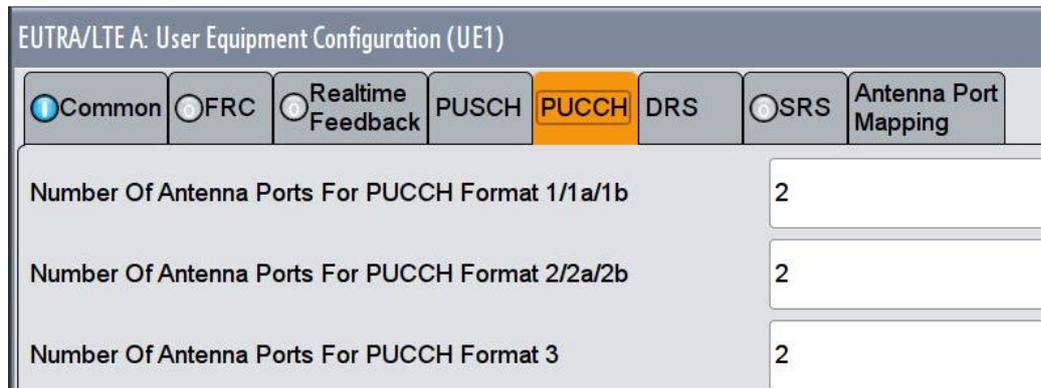

Fig. 3-164: Number of antenna ports for the different PUCCH formats is 2
4. Enter in tab PUCCH the **Number of Antenna Ports**, here 2 (Fig. 3-164).